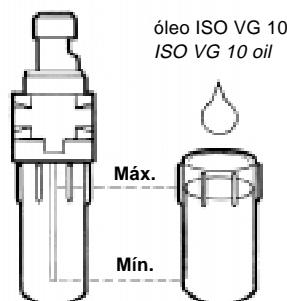

Fig. 3
9. Regule o fluxo de óleo para 2 a 3 gotas/min. (Fig. 3)
*Adjust oil flow to 2 to 3 drops/min. (Fig. 3)*